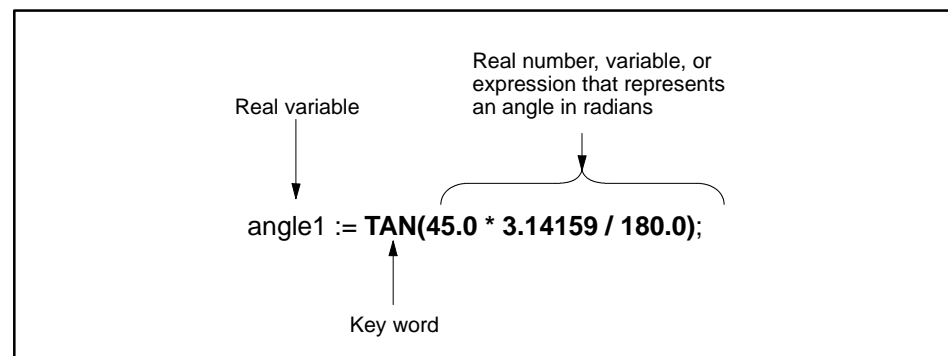

Figure 11-51 TAN Function
- The returned value is also a real number. For example, in Figure 11-51, the value of the variable, **angle1**, is 1.0.